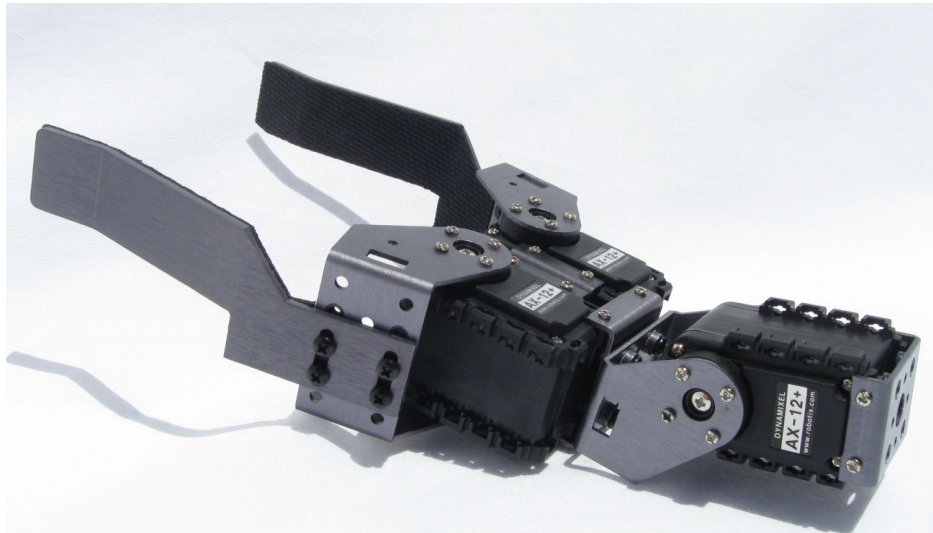

Figure 13
13. Using (4) 2mm screws, (1) set screw, (1) plastic standoff and (1) spacer install the AX-45 bracket to the AX-12/18 servo as shown in figure 13.